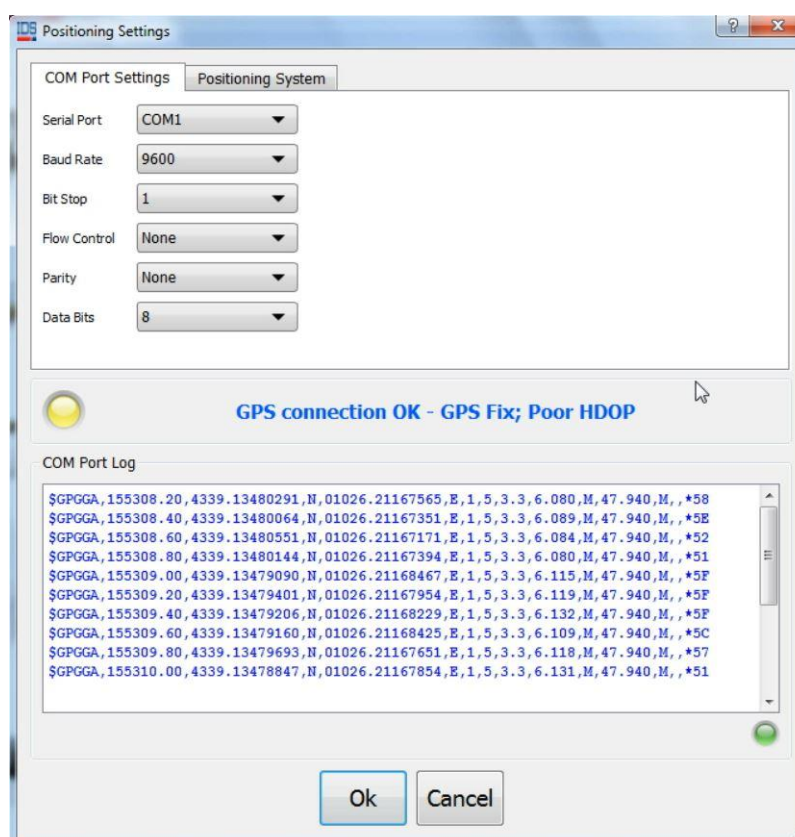

Fig. 2.36 – COM Port Settings
1. COM Port Settings (Fig. 2.36)